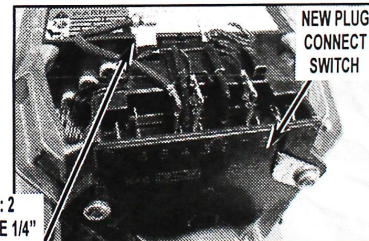

FIGURE 2B (REPLACEMENT MOTOR)
**NOTE TO THE INSTALLER:** This motor kit is an authorized FSP service replacement part for your application. The motor in this kit may or may not be identical to your original motor. If your original motor had the pluggable motor switch (See *Figures 2B and 2C*), replace with the service motor in the same manner as you removed the defective motor. If the defective motor has the switch where the wire leads from the main harness connect to the motor switch individually, follow instructions below.